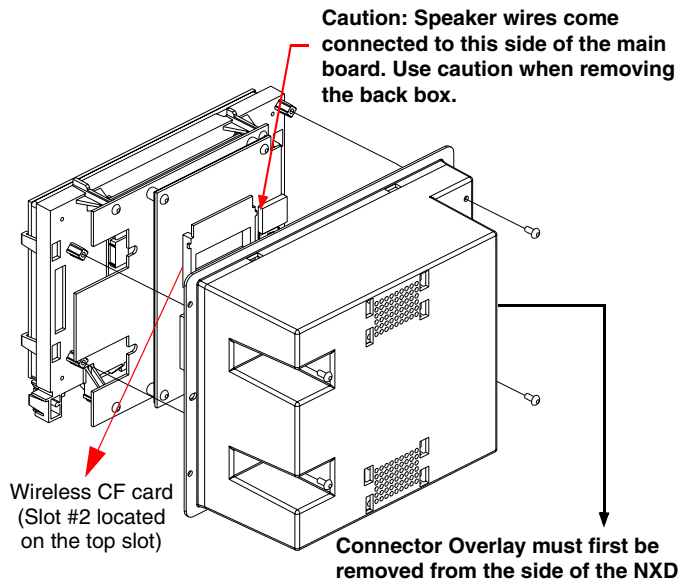

FIG. 10 Location of the wireless CF card connector on main board
6. Carefully lift-off the back box housing and angle it over to the side of the unit where the wires are connected to the circuit board (FIG. 10).